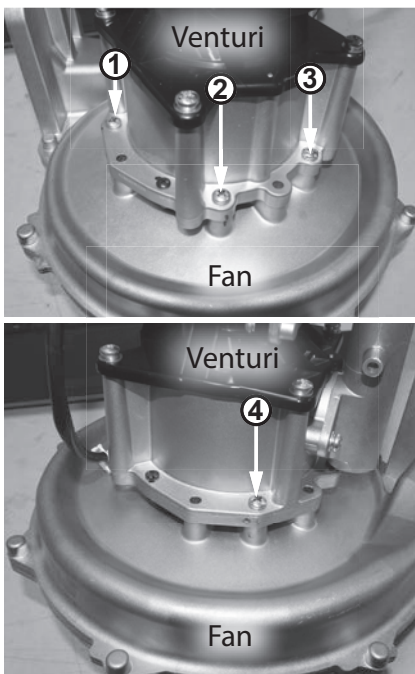

Figure 89 - Locate fan and venturi screws
- 12** Locate the large four screws securing the fan to the venturi. Figure 89 shows venturi facing upright for ease of removing screws.